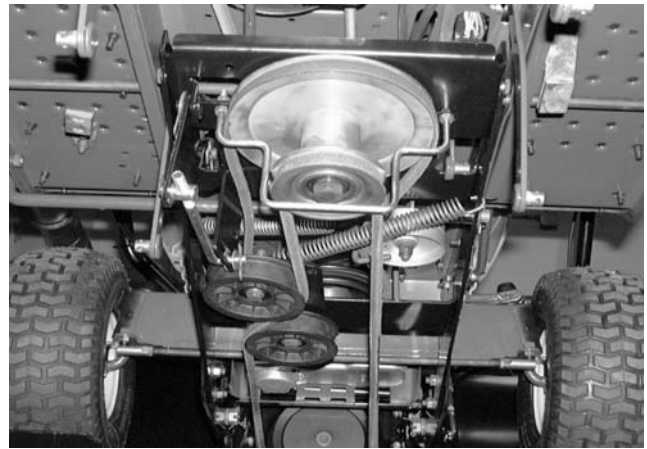

Figure 12-88.
- Route the belt around idler pulleys and bottom pulley on rear idler bracket assembly. See Figure 12-88.